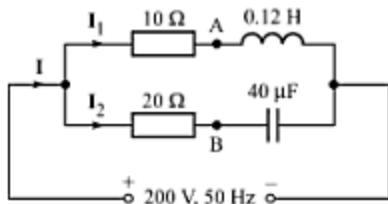

Fig. C-84
- C-140.** Two circuits  $A$  and  $B$  are connected in parallel across  $200\text{-V}$ ,  $50\text{-Hz}$  power mains, as shown in Fig. C-84. Calculate (a) the source current (b) the current in each branch, and (c) the power factor. Draw the phase diagram.